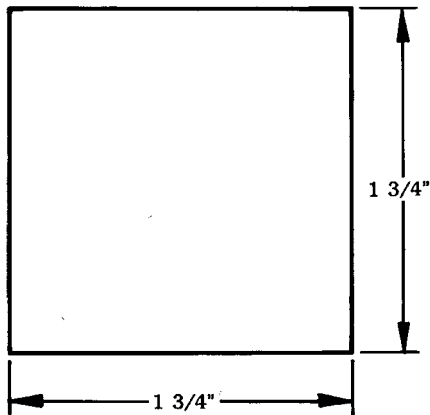

Fig. 3 — Mounting Hole Dimensions
1. Cut a hole in the wall for the terminal board housing. The hole should be $1\frac{3}{4}$ in. by $1\frac{3}{4}$ inches. See Fig. 3.